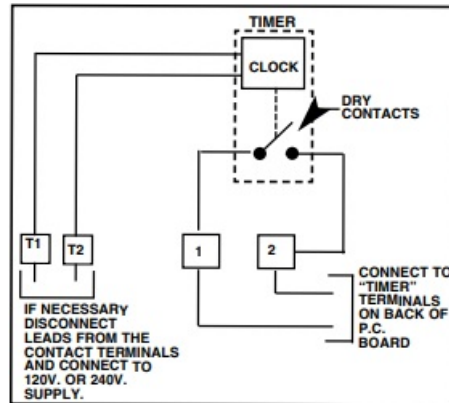

Figure 5 Time Clock
3. Connect the other end of the wires to the dry contacts (no voltage) of a suitable timer. Important, make sure the clock supply is separate from the contacts of the timer (See figure 5).